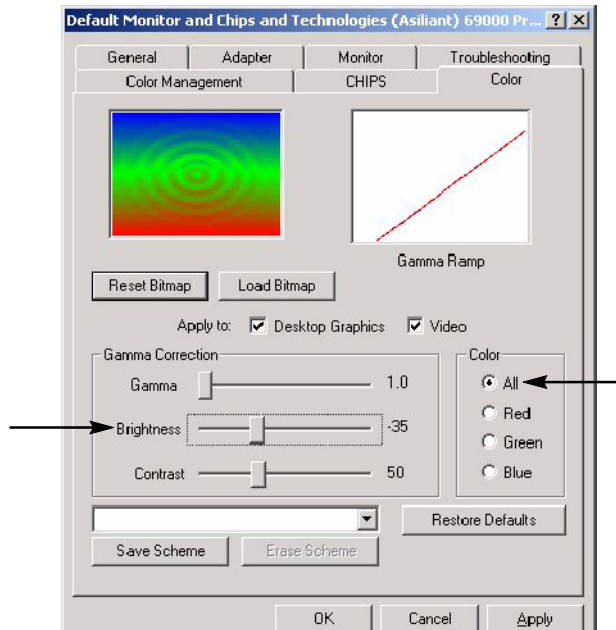

Figure 15: Brightness and button settings
6. Select the Desktop graphics and Video buttons. See Figure 15.
7. In the Color menu select All. See Figure 15.
8. Slide the brightness bar to -35. All. See Figure 15.